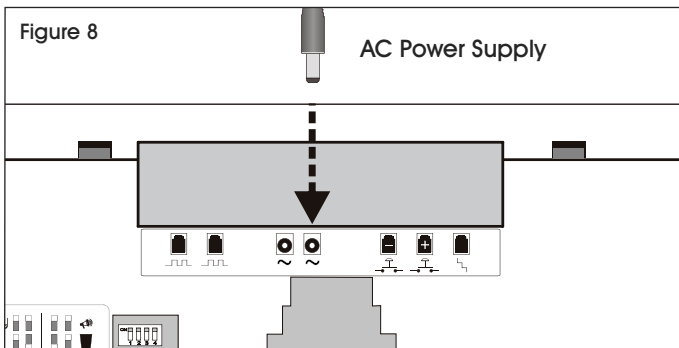

Figure 8
1. Plug the AC power supply into either of the two power receptacles located on the back of the display. (See Figure 8)